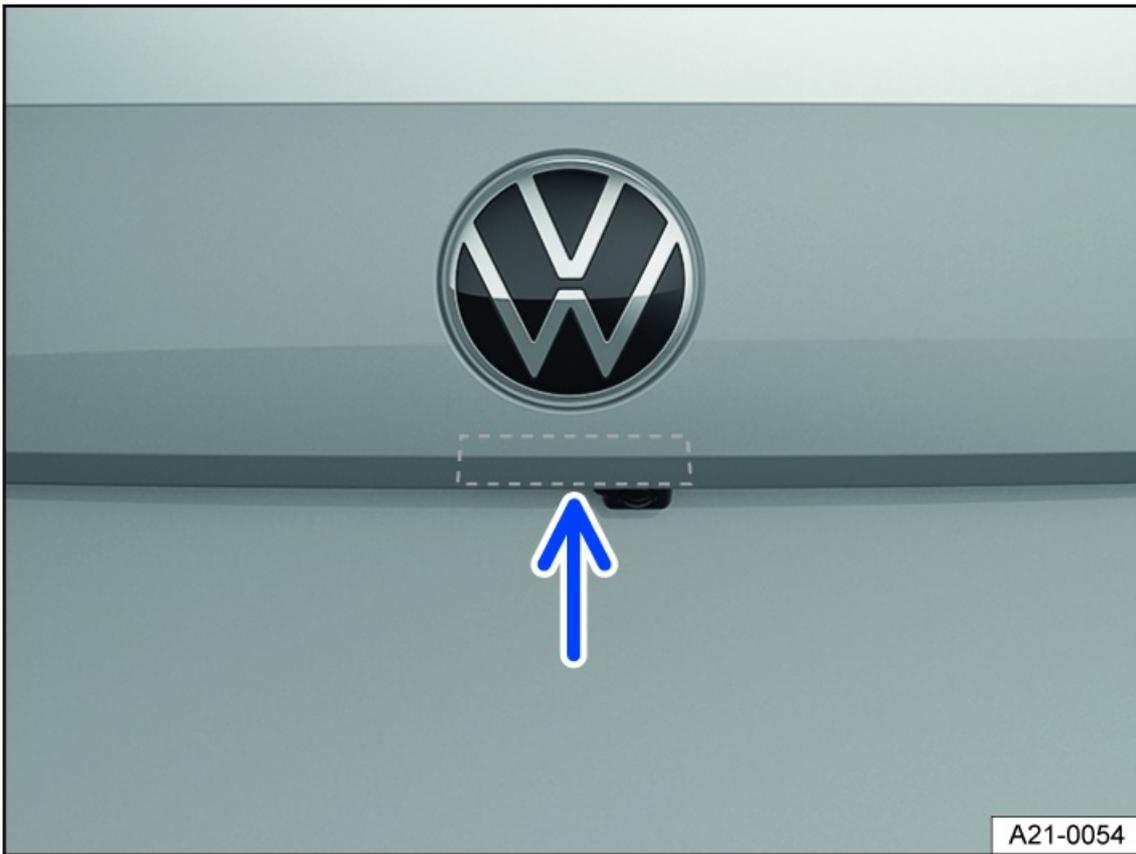

Fig. 57 In the trunk lid: Button to open the trunk lid (general example).
2. Raise the trunk lid using the button fig. 57.